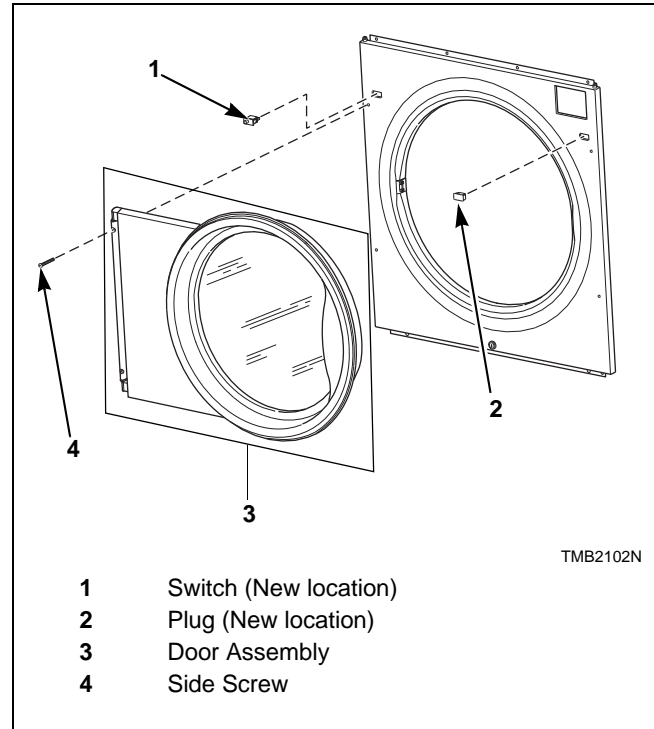

Figure 11
10. Remove opposite door hinge cam. **DO NOT DISCARD CAM AND NUT.** Reattach door hinge cam to door hinge assembly securing with screw. Install door assembly and four door hinge side screws loosely. Refer to *Figure 11*.